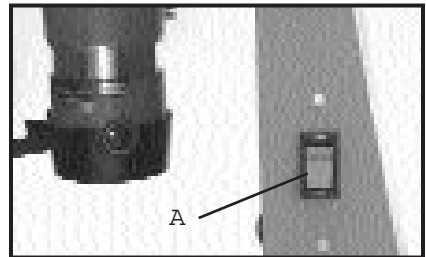

Fig. 15
TO START MOTOR Move switch lever (A) Fig. 15 up to the ON position.
TO STOP MOTOR Move switch lever (A) Fig. 15 to the OFF position.